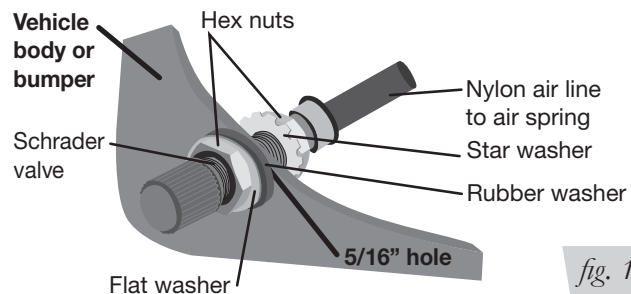

fig. 12
3. Install the Schrader valve in the chosen location (Fig. 12).